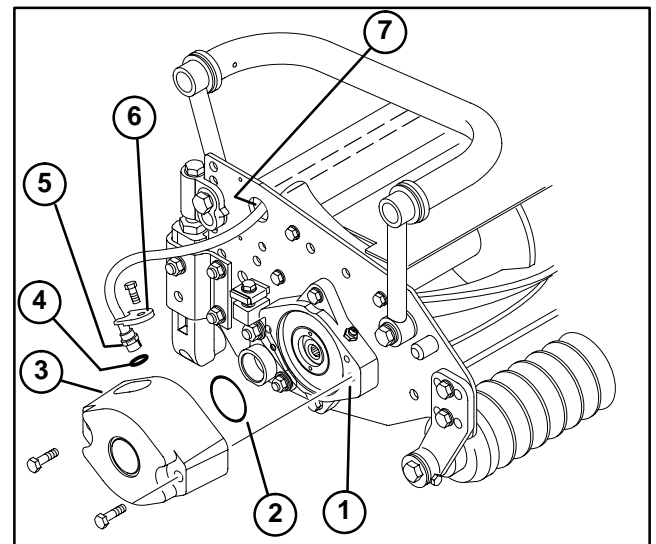

Figure 28
1. Lubricate and install a large O-ring into bearing housing on each end of cutting unit (Fig. 28 & 30).
2. Install a counter weight onto appropriate end of each cutting unit with capscrews provided (Fig. 28).